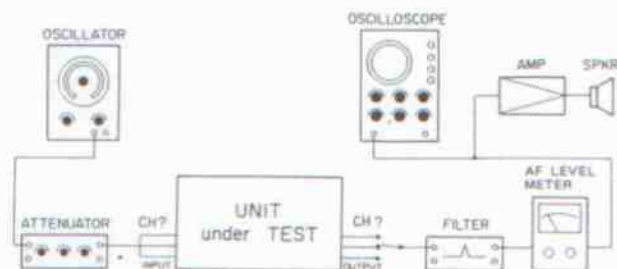

Fig. 7-6-13. Crosstalk Measurement Set-Up
1. Connect test equipment as shown in Fig. 7-6-13.